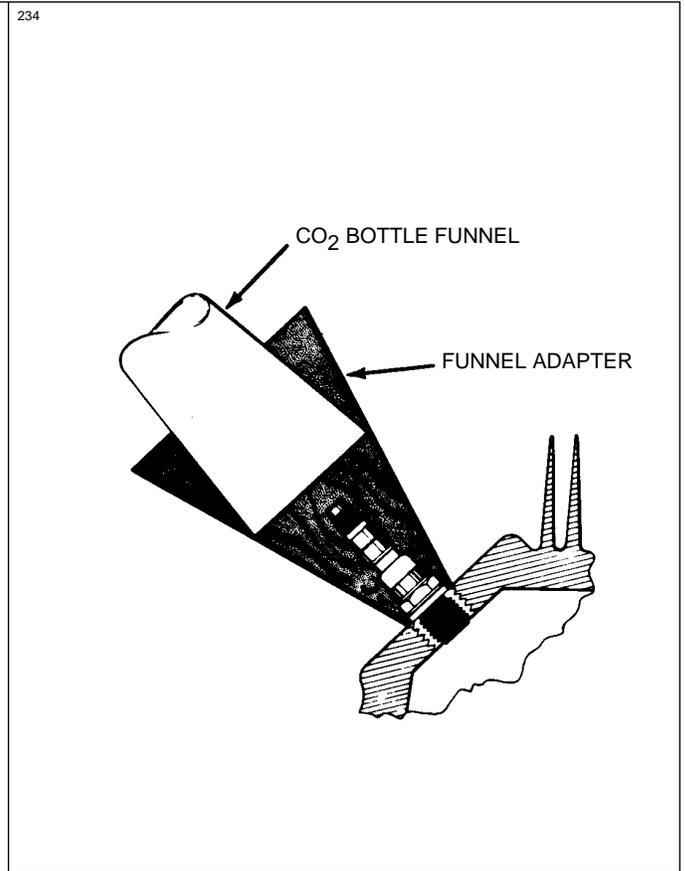

Figure 8-27 Removing Spark Plug Frozen to Bushing
8-38. REMOVAL OF SPARK PLUGS. (Refer to Figure 8-27.)
d. Removal of seized spark plugs in the cylinder may be accomplished by application of liquid carbon dioxide by a Conical metal funnel adapter with a hole at the apex just large enough to accommodate the funnel of a CO2 bottle. (Refer to Figure 8-27.) When a seized spark plug cannot be removed by normal means, the funnel adapter is placed over and around the spark plug. Place the funnel of the CO2 bottle inside the funnel adapter and release the carbon dioxide to chill and contract the spark plug. Break the spark plug loose with a wrench. A warm cylinder head at the time the carbon dioxide is applied will aid in the removal of an excessively seized plug.